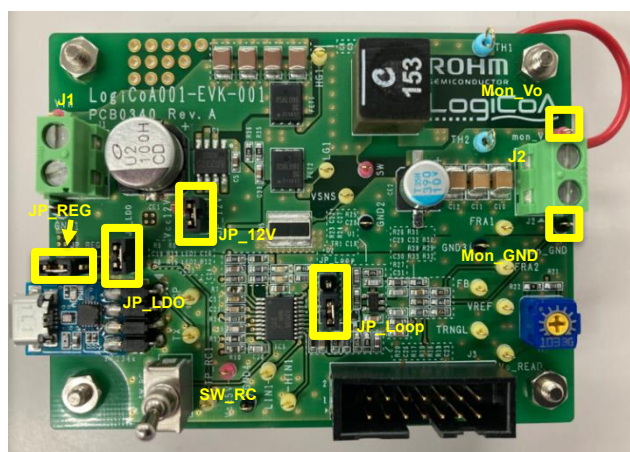

Figure 1-1. LogiCoA001-EVK-001(Top View)
Figures 1-1 and 1-2 show the appearance of this EVK.
2. Turn the SW_RC to connect pin 1 and pin 2 on EVK. (Turn the switch to the upper side in the board direction of Figure 1-1)